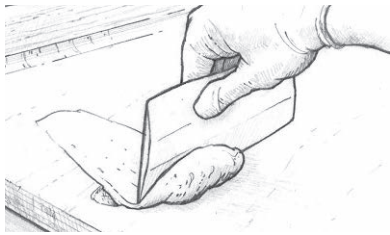

Figure 22 Apply fairing compound to fill all voids and smooth to shape.
4. Trowel on the thickened epoxy mixture with a plastic spreader, working it into all voids and depressions. Smooth the mixture to the desired shape, leaving the mixture slightly higher than the surrounding area (Figure 22). Remove any excess thickened epoxy before it cures. If the voids you are filling are over $\frac{1}{2}$ " deep, apply the mixture in several applications or use 206 Slow Hardener® or 209 Extra Slow Hardener™, depending on ambient temperature.